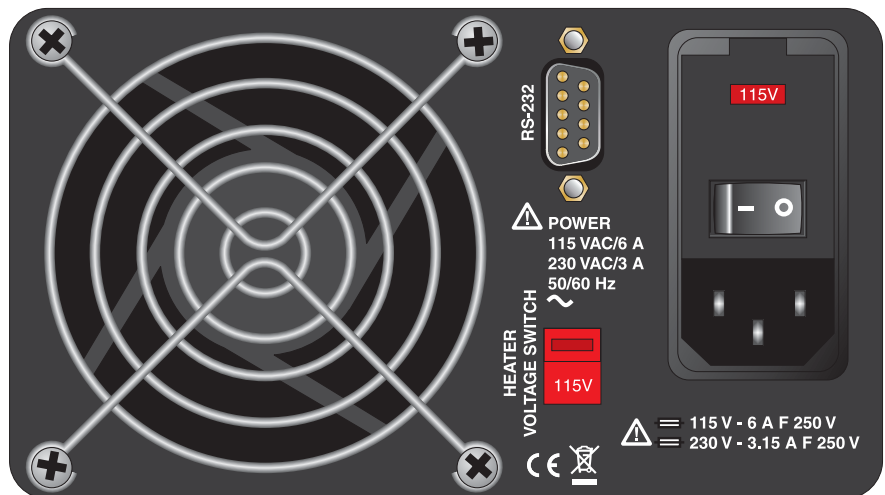

Figure 1 9140 Back Panel
Figure 1 on page 13.
- Using the same straight slot screwdriver, move the heater switch to display “230V”. See the rear panel drawing in Figure 1 on page 13.